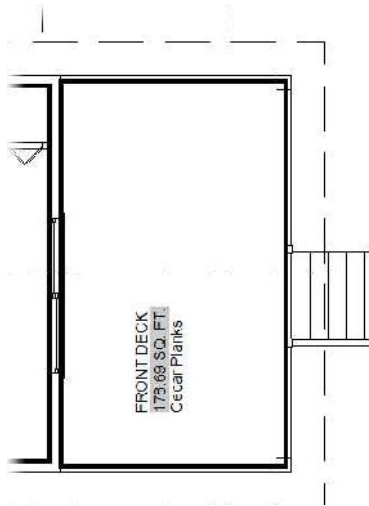

FIGURE 9.38: The front deck after the REGENALL command is issued
5. The REGEN and REGENALL commands are not included in the Ribbon interface and must be executed at the command line. Enter **REA** to regenerate and update the display of your block attributes. The area updates to show the true value for the associated polyline (see Figure 9.38).